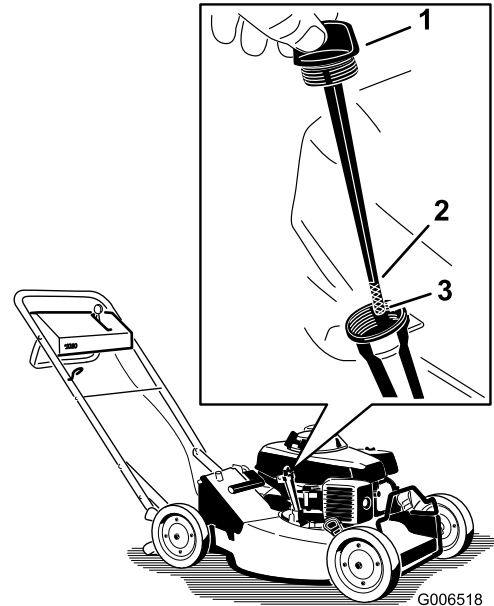

Figure 7
Before each use, ensure that the oil level is between the lower limit and upper limit marks on the dipstick (Figure 7).
2. Clean around the dipstick (Figure 7).